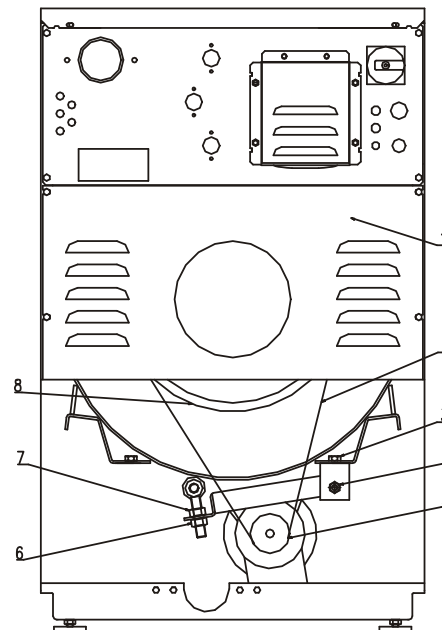

Fig.5.2.4. Regulation of belt
1. Dismantle the rear panel, fig.5.2.4., pos.1.
2. Take off the belts, (pos.2.) by pulling the belt and turning the drum pulley (pos.5).
3. Put a new belt (pos.2) of identical type on pulleys (pos.5 and 8). The re-assembly of the belts is done in the reverse order as the disassembly.